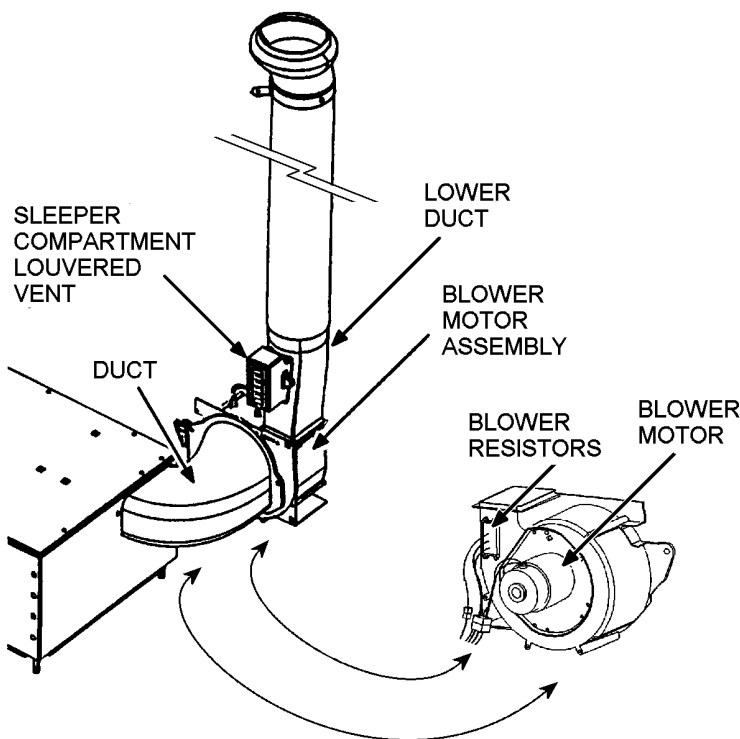

Figure 43 Blower Motor Assembly - Sleeper Compartment (92/93/94/9900)
Refer to Figure 43.
3. Disconnect the electrical connector for the resistor (Figure 43).
1. Install the resistor assembly with two screws (Figure 43).